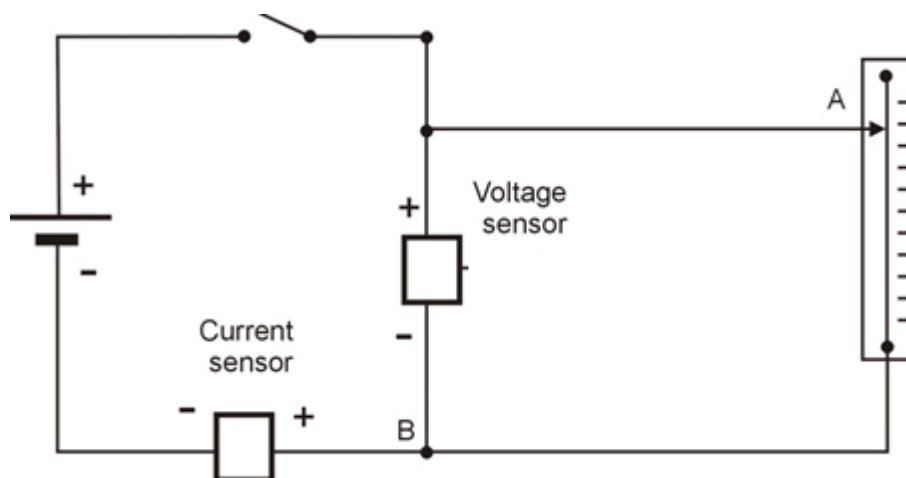

Figure 2
6. Assemble the circuit as shown in Figure 1 and Figure 2.
7. Use the alligator clip to connect to any point on the resistance wire (Point A in Figure 2).